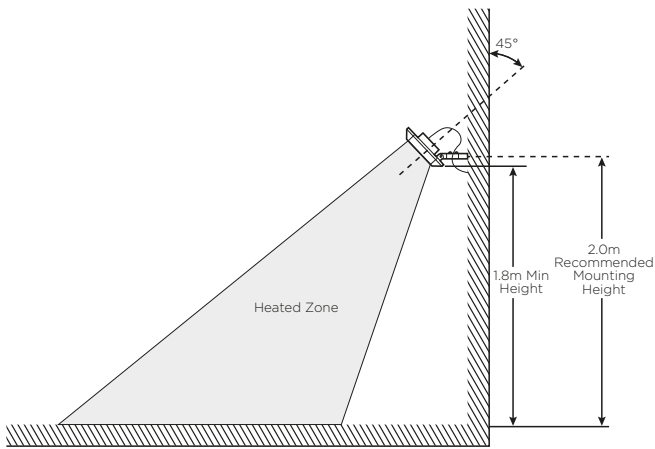

Fig. 3
- Remove the screws (A) and (B) which hold the control box on the back of the heater.
- This will allow access to the elements. Remove the retaining clips and spring clips (C) to loosen the elements.
- Remove the screws (D) which hold the back panel.
- Remove the splash brackets (E) on the elements.
- Bend the bars on the guard as indicated in Fig. 3 to remove it.